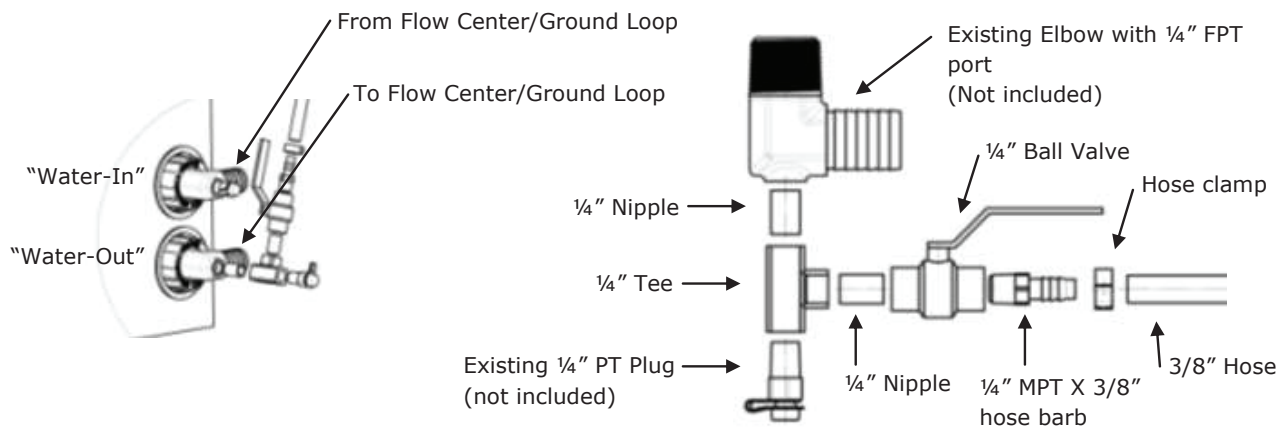

Figure 4: Geo-Booster installation between flow center and geothermal heat pump
3. Remove PT plug from elbow on the lowest pressure side of the heat pump. This is generally the “water out” side. Finalize plumbing connections using the supplied fittings (Figure 4).